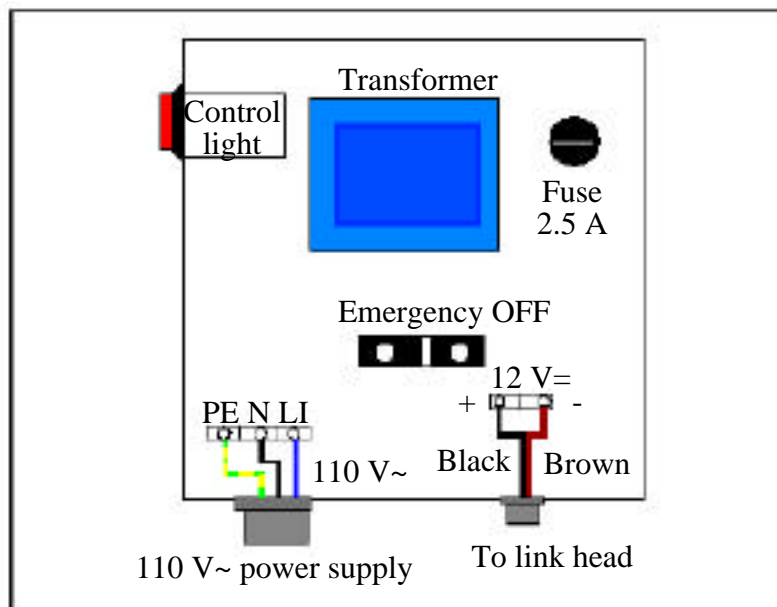

Fig. 3: Wiring diagram of the transformer box.
- The links are provided with a weather resistant power transform box which transforms the line voltage (110 Vac) into the low voltage (12 Vdc, 1.6 A) needed to operate the link head. The transformer box is also equipped with an emergency switch (red knob located at the front side of the box). When the low voltage cable supplied with the link head is used for installation, the transformer box should be attached not further than 1.5 m from the link head. Fig. 3 shows the inside of the transformer box and the wiring diagram.